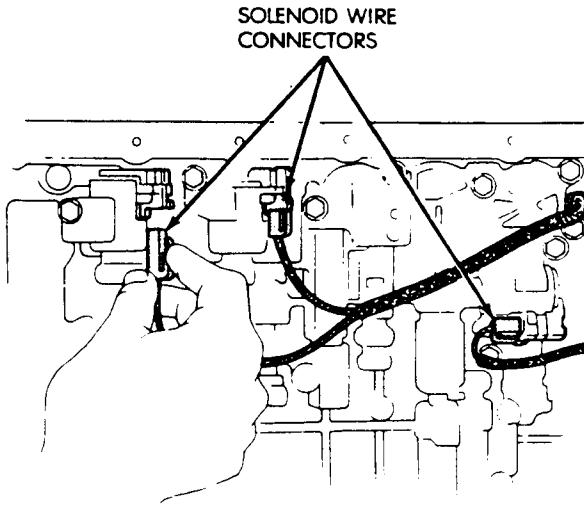

Fig. 7 Solenoid Wire Connectors
(4) Disconnect solenoid wire connector (Fig. 7).
(5) If all solenoids are being removed, mark or tag wires for assembly reference before disconnecting them.
(6) Remove bolt attaching solenoids to valve body and
(1) Remove oil pan and oil screen. Refer to Solenoid Removal procedure.
(2) Disconnect solenoid wire connectors (Fig. 7).
(3) Disconnect solenoid wire connectors (Fig. 7). Mark wires for assembly reference.